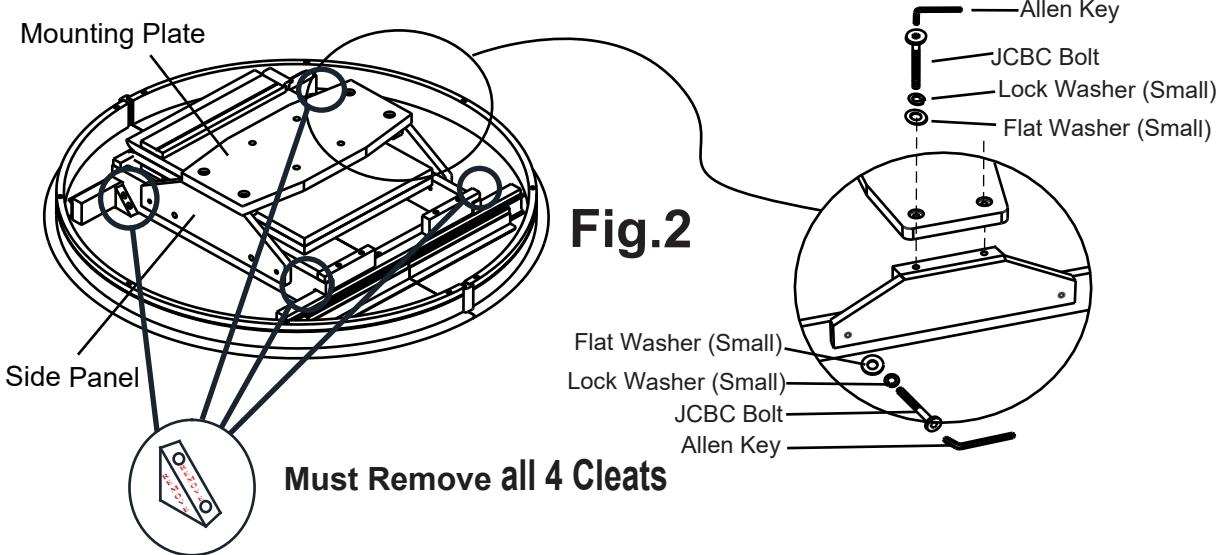

Fig.2
2.1- Position the table top upside down on a smooth, protective surface such as carpet. Remove and discard the temporary wood strip .Install the side panel and mounting plate by using the supply hardware as shown on Fig.2.